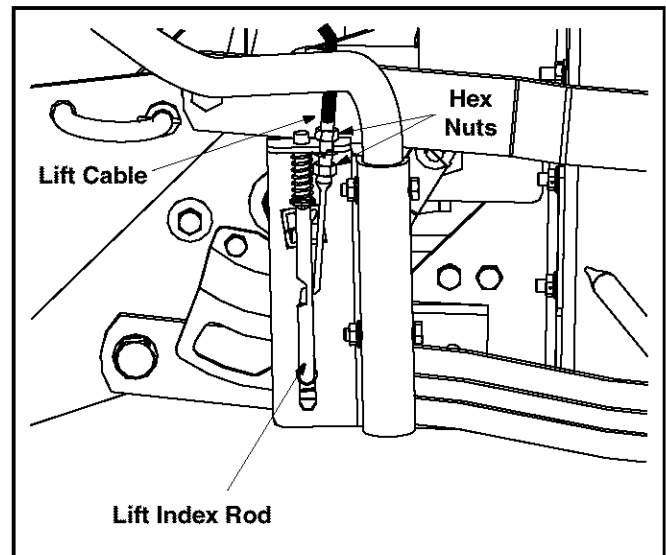

Figure 19
- Loosen the upper hex nut a few turns, then tighten the lower hex nut to shorten the cable length. See Figure 19.
- Loosen the lower hex nut a few turns, then tighten the upper hex nut to lengthen the cable. See Figure 19.